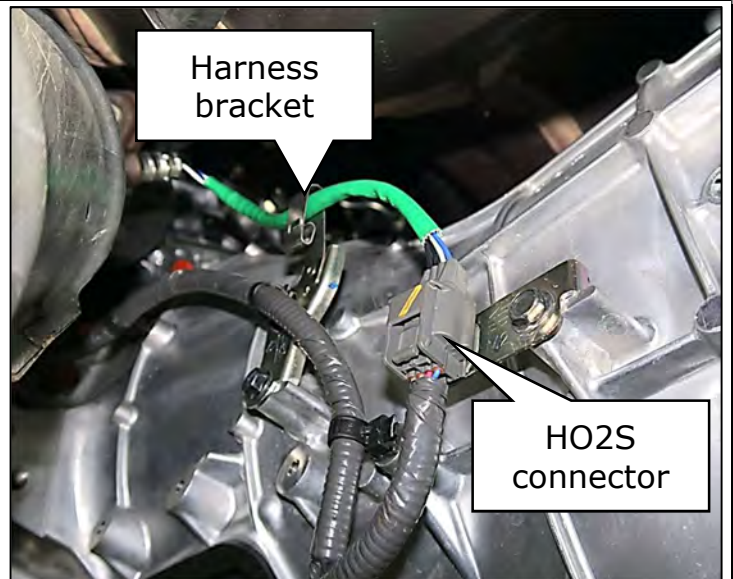

Figure 49
50. Disconnect the LH HO2S (rear O2 sensor) connector. (Figure 49)